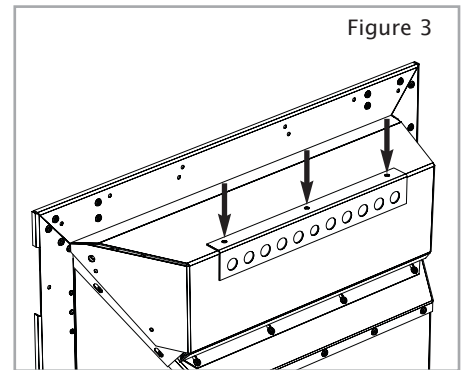

Figure 3
**Spigot restrictor :** The appliance is supplied with an optional spigot restrictor. The spigot restrictor may be fitted when the fire is to be installed in a good class 1 flue, a conventional brick chimney, or a 175mm (7") circular flue. The spigot restrictor is not recommended for pre-cast and 125mm (5") circular flues as it may cause spillage. If required, fit the spigot restrictor using three No8 x 5/16 Self tapping screws (supplied loose) as shown in figure 3.